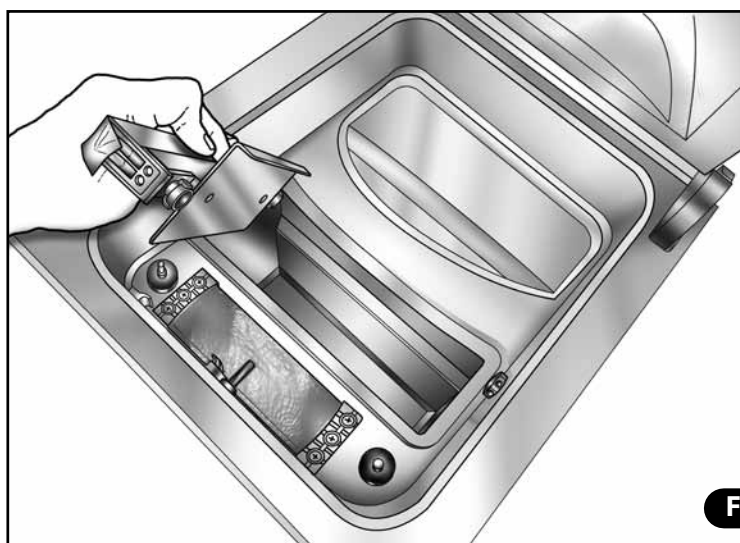

Fig. 2
- 2) Extract the under-bar bearing and put in the new one (**Fig. 2**).